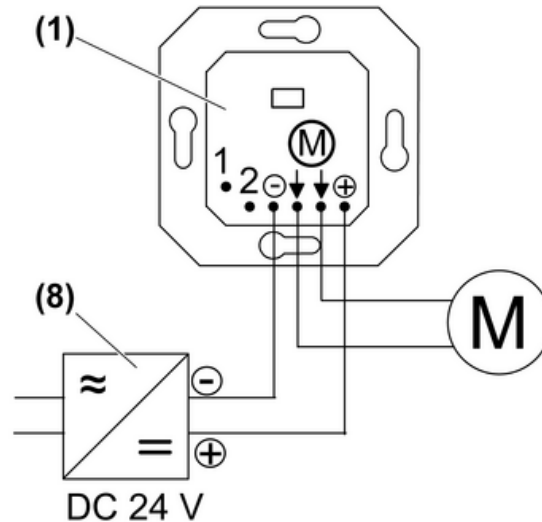

Figure 3: Connection diagram for insert
- Connect the shutter motor and power supply unit (8) to the insert (1) according to the connection diagram (Figure 3).